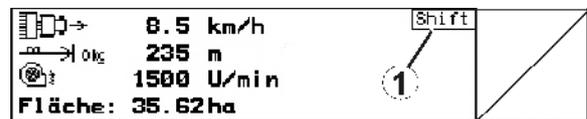

Fig. 10
- When the Shift-key is activated, this is indicated on the display (Fig. 10/1).